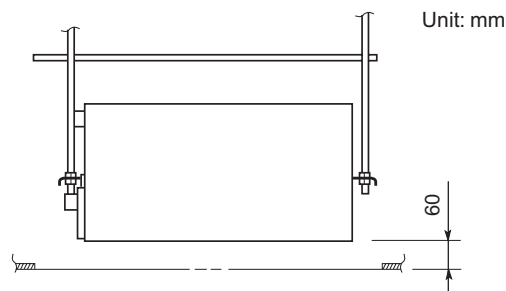

Fig. 2-146
- The distance between the unit and the opening in the ceiling and the distance between the bottom surface of the ceiling and the bottom surface of the flange of the unit should follow the dimensions given in Fig. 2-146. Use the supplied installation gauge to check.